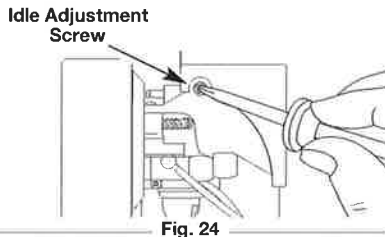

Fig. 24
The idle speed of the engine is adjustable. An idle adjustment screw is between the air filter cover and the engine starter housing (Fig. 24).
2. Release the throttle lever and let the engine idle. If the engine stops, insert a small Phillips in between the air filter cover and the engine cover (Fig. 24). Turn the idle speed screw in, clockwise, 1/8 of a turn at a time (as needed) until the engine idles smoothly.